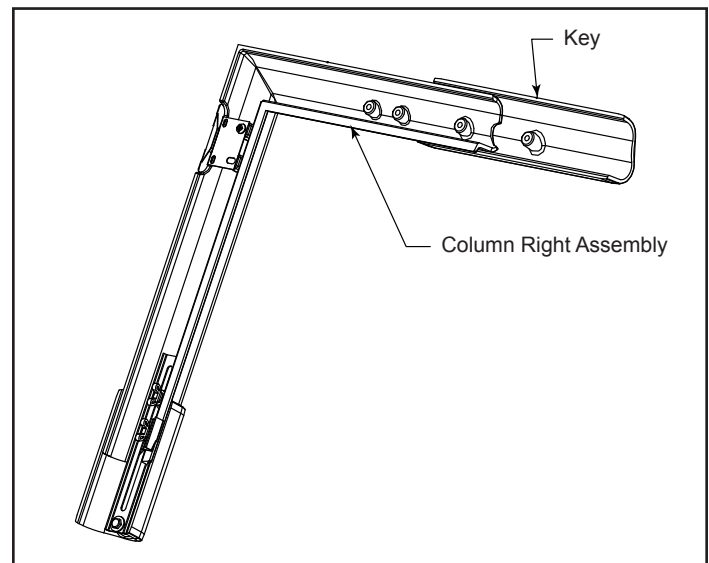

Figure 1 - Place column right assembly onto key.
2. Place the column right assembly onto the key, Figure 1.